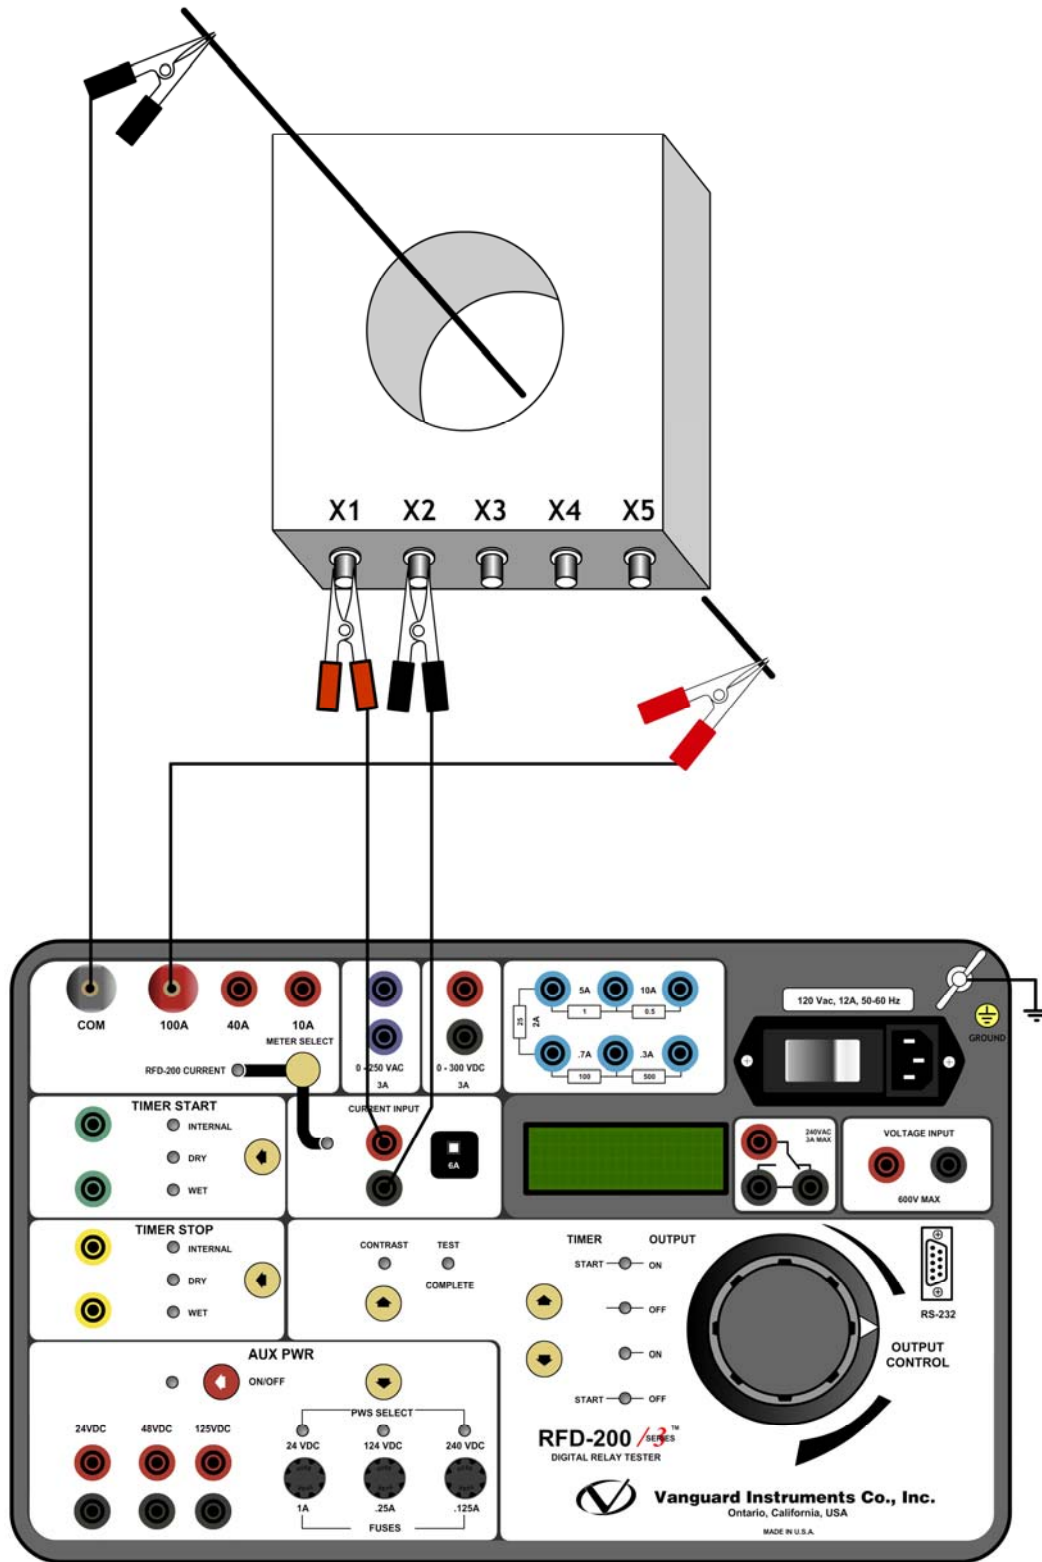

Figure 5. Typical CT Turns Ratio Test Connection
- a. Connect the RFD-200 S3 current source through the CT primary current path as shown in Figure 5.
- b. Connect the CT secondary winding to the RFD-200 S3 **[EXT INPUT CURRENT]** input as shown in Figure 5.